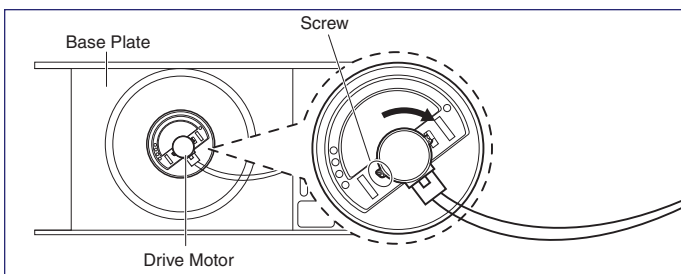

Figure 4-16. Drive Motor Removal
5. Remove a screw from the motor. (See Figure 4-16)